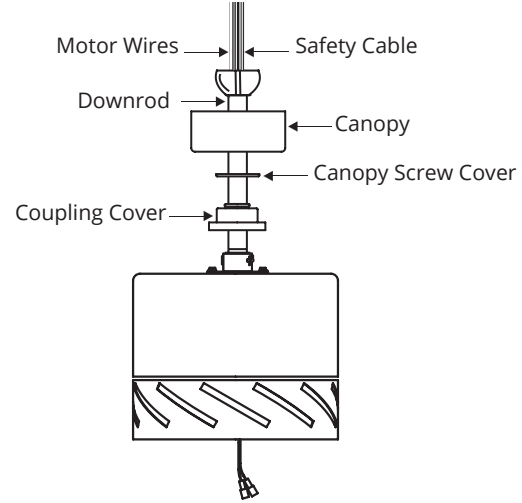

FIGURE 10
1. Slip the coupling cover, canopy screw cover (painted side face down), and canopy (opened side up) onto the downrod (Fig. 10). Coupling cover goes all the way to the bottom.
2. Carefully reinstall the hanger ball onto the downrod, being sure that the cross pin is in the correct position, the setscrew is tightened and wires are not twisted (Fig. 10).